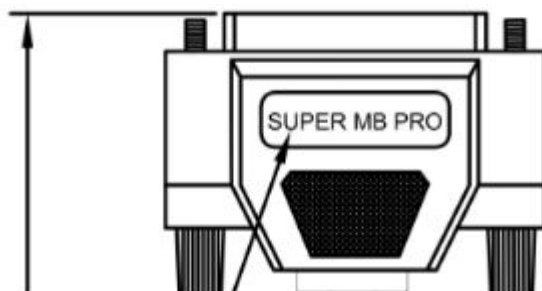

Figure6
- ◇ Connect the car and the M6+ PRO device to the diagnostic main line with the SUPER MB PRO logo.(Figure6) Open the MB software lock on the computer and you can use the original diagnostic test software normally.